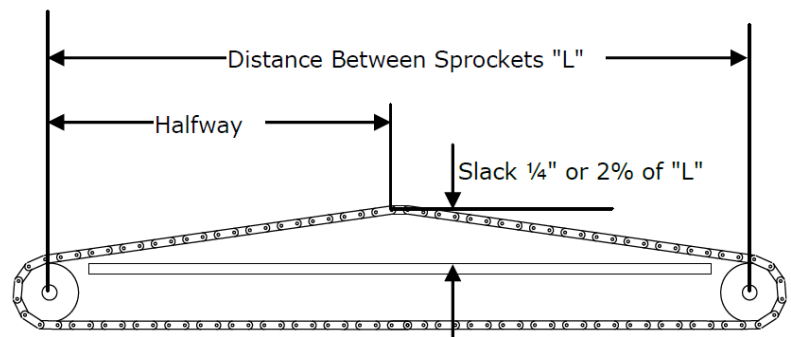

Figure 2.5 – Initial Tensioning of Chain on SL6 Conveyor
- Adjust the chain tension using the take up sprocket. Refer to Figure 2.5. Lift the chain half way between tail sprockets and measure the gap. It should be $\frac{1}{4}$ " or 2% of the distance between tail sprockets.